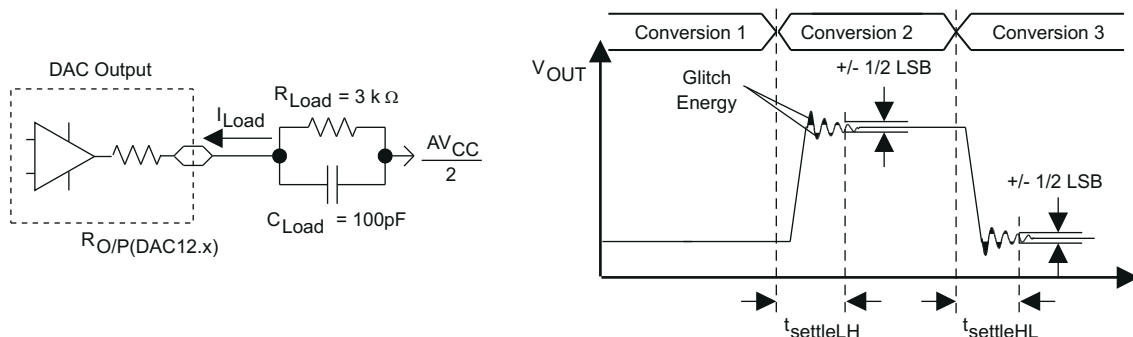
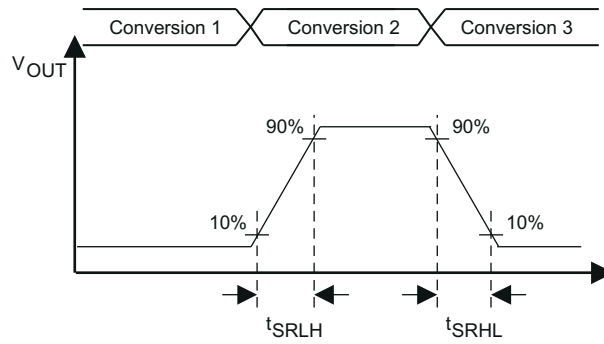

图 8-25. Settling Time and Glitch Energy Testing
图 8-26. Slew Rate Testing
V_{ref} = V_{CC}, DAC12IR = 1, over recommended operating free-air temperature range (unless otherwise noted) (see 图 8-25 and 图 8-26)
| t _{ON} | DAC12 on time | DAC12_xDAT = 800h, Error _{V(O)} < ±0.5 LSB ⁽¹⁾ (see 图 8-25) | 2.2 V, 3 V | | 60 | 120 | μs |
- (1) R_{Load} and C_{Load} connected to AV_{SS} (not AV_{CC}/2) in 图 8-25.
- (2) Slew rate applies to output voltage steps ≥ 200 mV.